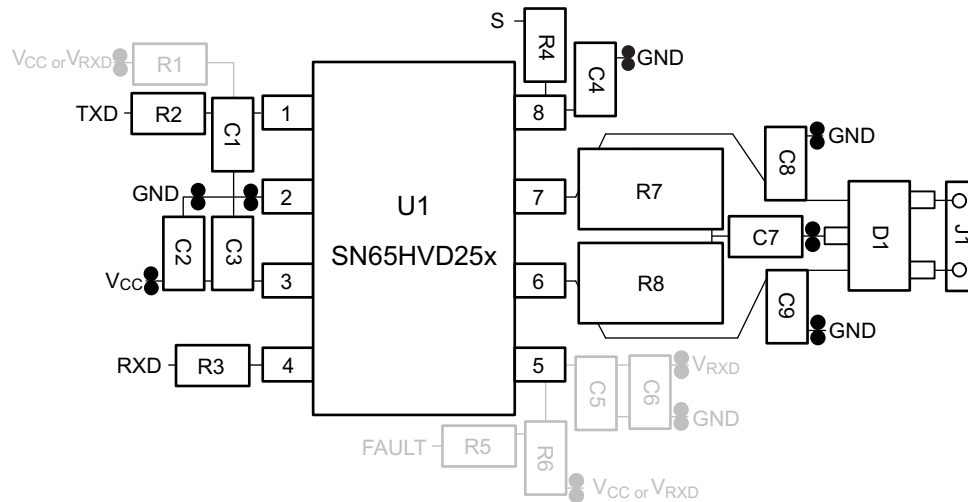

Figure 23. Layout Example
- **Transient Protection on CANH and CANL:** Transient Voltage Suppression (TVS) and capacitors (D1, C5 and C7 shown in Figure 23) can be used to protect the system level transients like EFT, IEC ESD, and Surge. These devices must be placed as close to the connector as possible. This prevents the transient energy and noise from penetrating into other nets on the board.
- **Bus Termination on CANH and CANL:** Figure 23 shows split termination where the termination is split into two resistors, R5 and R6, with the center or split tap of the termination connected to ground through capacitor C6. Split termination provides common mode filtering for the bus. When termination is placed on the board instead of directly on the bus, care must be taken to ensure the terminating node is not removed from the bus, as this causes signal integrity issues if the bus is not properly terminated on both ends.